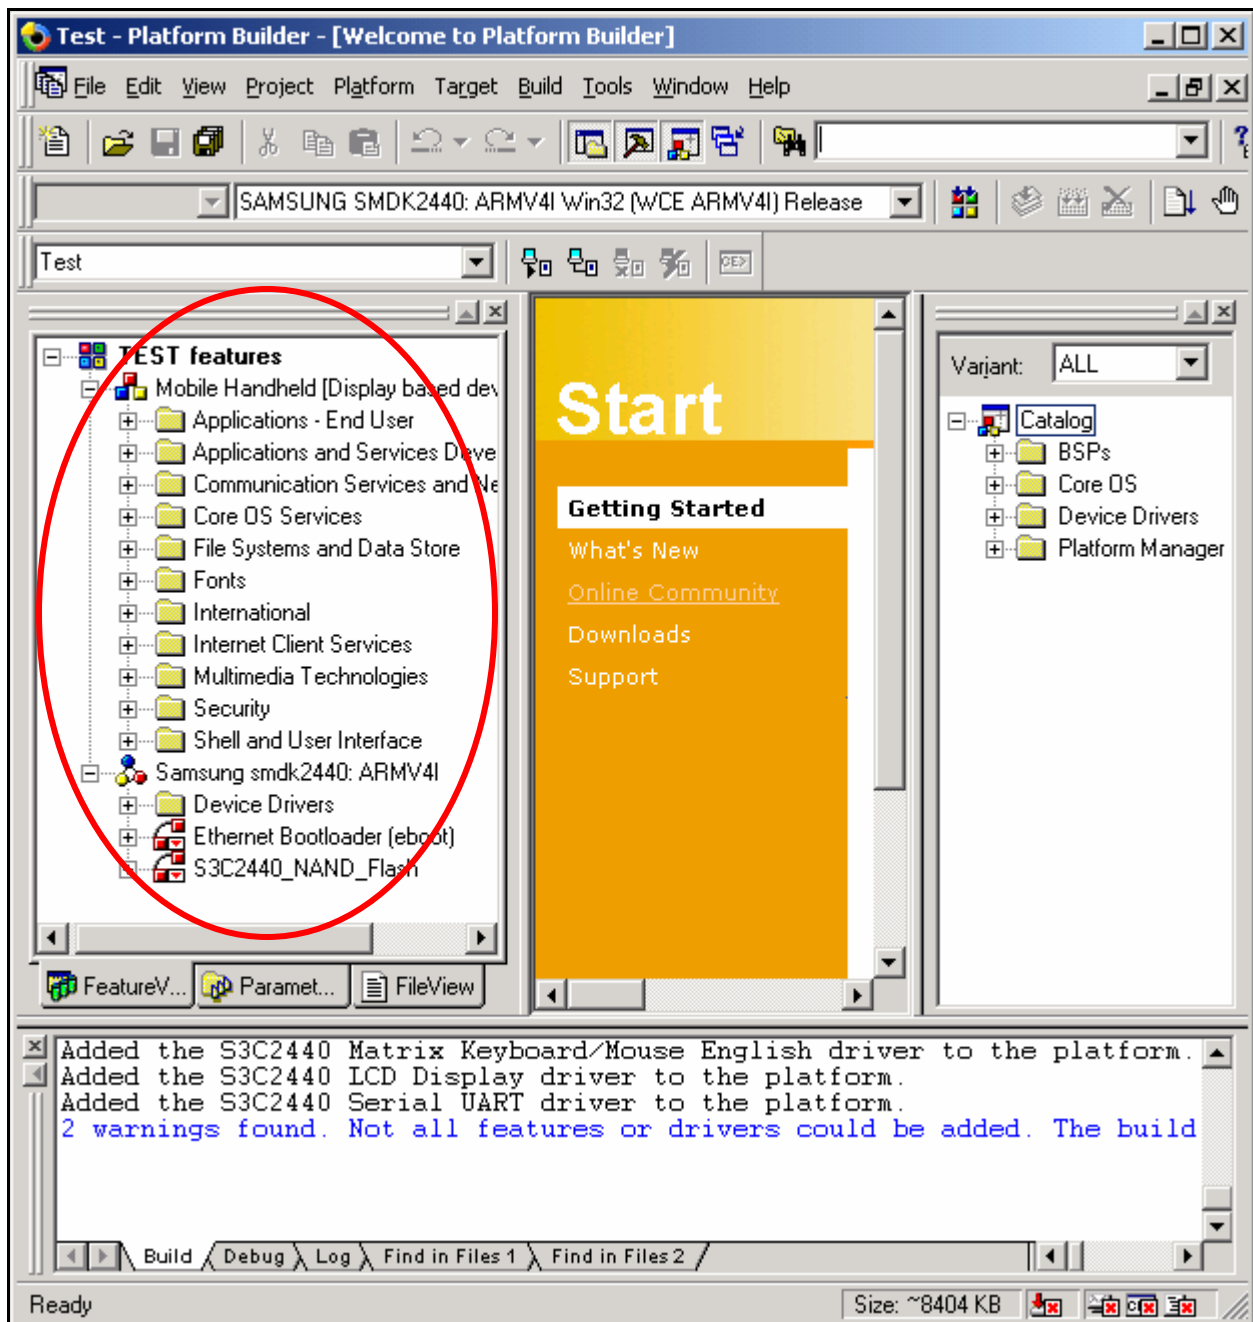

Figure 3-1 New Platform Features
1. In the Platform Builder window on your host PC, you can see the new platform created along with its various sub-directories on the left hand side as shown below in the figure 3-1.